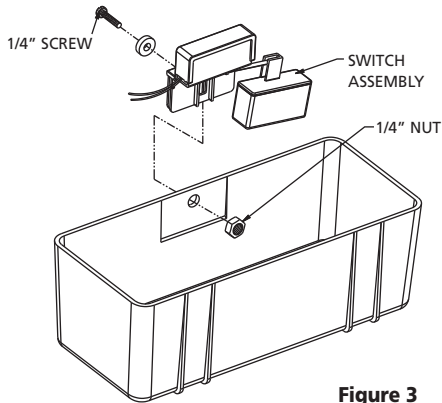

Figure 3
4. Safety switch: (Figure 3,5) Use a class 2 low voltage circuit to connect the safety switch. Thermostat circuit can be controlled by connecting COM and NO in series with low voltage thermostatic circuit to shut the AC/Thermostat circuit. Alternatively, the heating/cooling COM and NC switch contacts can be used to trigger a low voltage alarm circuit (connected in series) if the heating/cooling system cannot be troubled. The safety switch comes with leads connected to